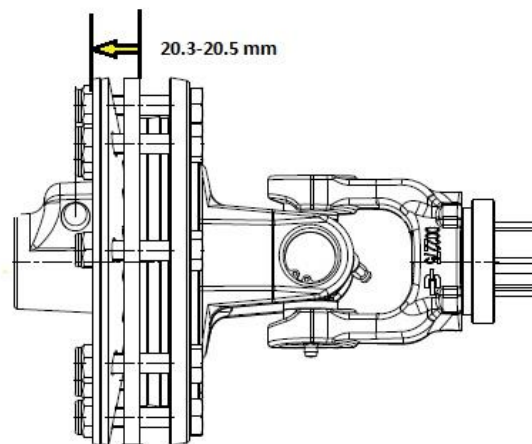

**Figure 4**
- Loosen the bolts on the clutch in a crossing pattern, Figure 4, until the clutch discs are loose but the bolts still hold them in place.